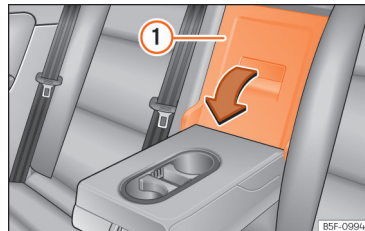

Fig. 177 On the rear seat backrest: opening the tailboard.
- Pull the release lever in the direction of the arrow and push the tailboard cover »» Fig. 177 ① down and forwards.